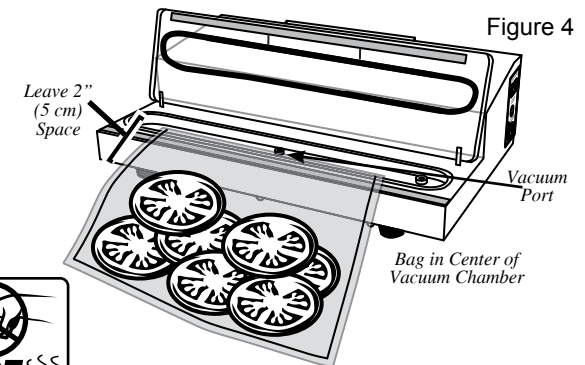

Figure 4
5. Fill a vacuum bag with the product you want to seal. Leave at least 2” (5 cm) of space between the open end of the bag and product *Figure 4*.